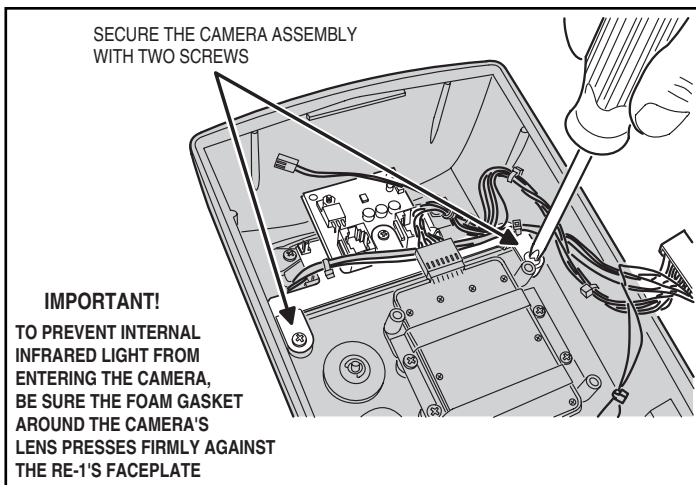

Figure 22. Mounting the Camera in the RE-1
2. Mount the camera assembly into the RE-1 case. Secure the camera with the two screws provided (see Figure 22).